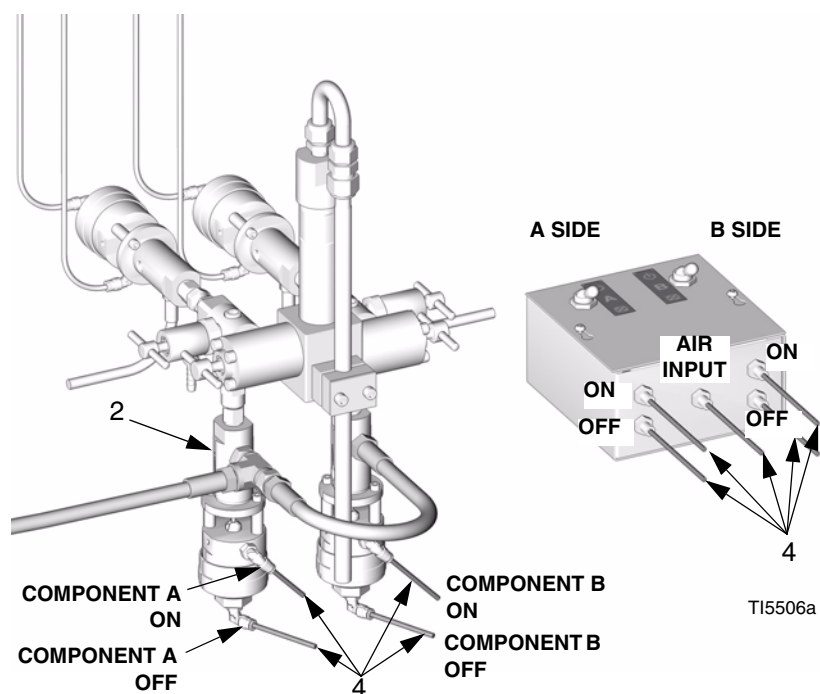

FIG. 3. Connect Air Lines
2. Remove solvent purge valves from mix manifold. Install dispense valves (2) in their place. See FIG. 3.
1. Cut one length of tubing (4) to connect control box air input to main air line. See FIG. 3.
2. Cut four lengths of tubing (4) to connect control box ON and OFF ports to dispense valve (2) ON and OFF ports. See FIG. 3.